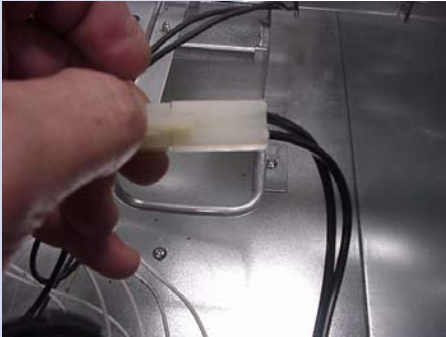

Figure 9
3. The Quick Connect is on the back of the cooktop. Unplug disconnect and ground. (Figure 9)